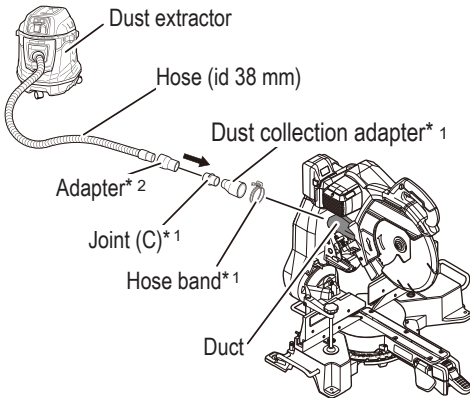

Fig. 55
13. Connecting the dust extractor (Sold separately) (Fig. 55)
Connection is done by pressing in the direction of the arrow. (Fig. 55)